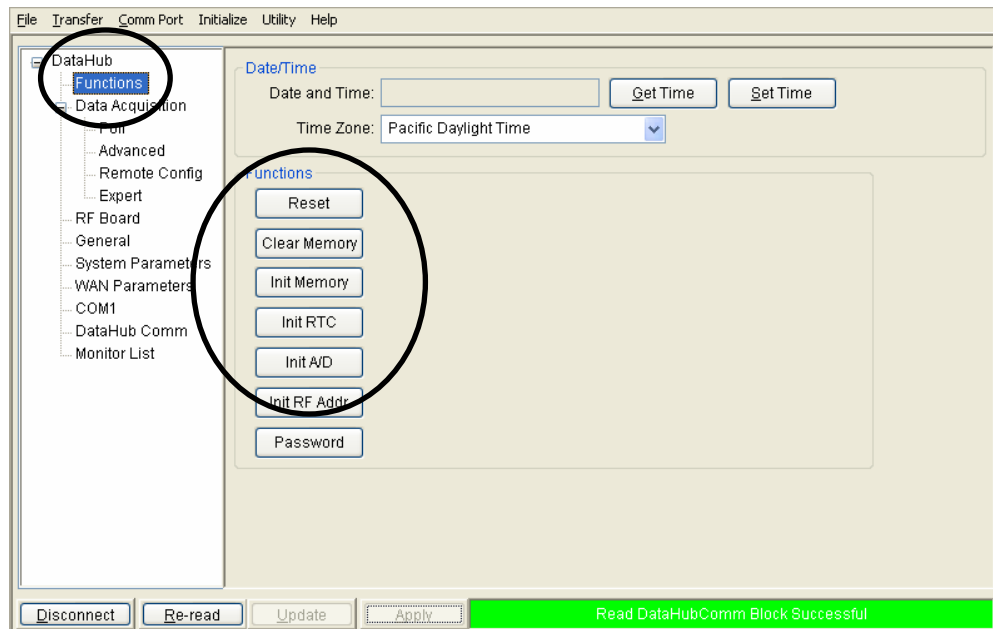

Figure 11.1: BinComm System Reset Screen
11.1.7 Select the **Functions** in the tree control. Figure 11.1
See Fig. 11.1 for an example of a partial data packet.